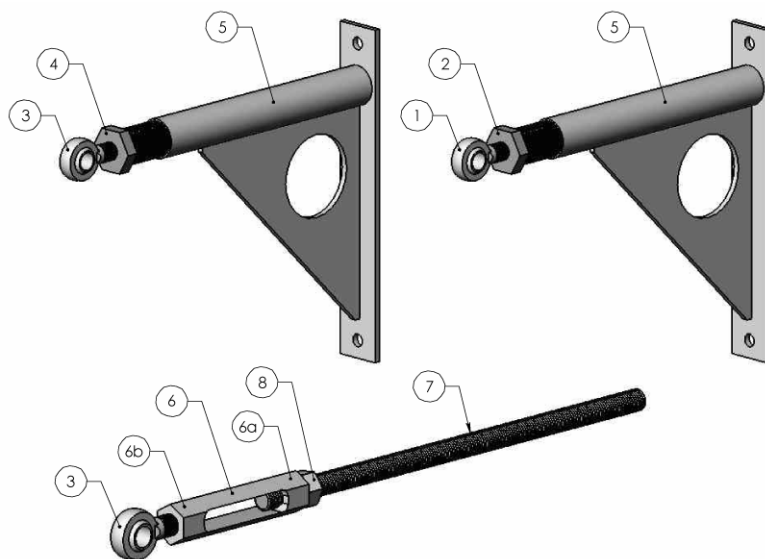

Figure 3. Azimuth and Elevation Control Arms.
2.4.1 Assemble Azimuth and Elevation Control Arms (see Figure 3)